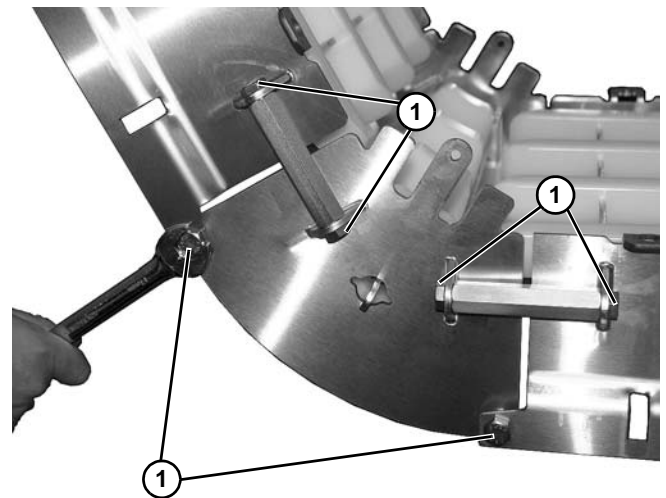

Figure 13
3. Tighten all screws (Figure 13, item 1) to 28-32 Nm (20-24 ft-lbs).